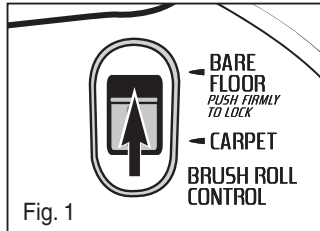

Fig. 1
- 1) Move brush roll control to 'bare floor.' Press firmly until it locks (Fig. 1).